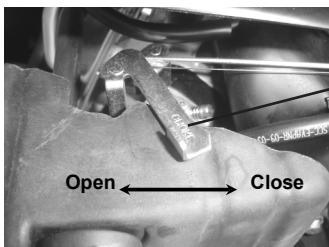

fig.12
- 2) Push the choke lever to the CLOSE position (Fig. 12)
- 5) If the choke lever is on the "CLOSE" position, please turn the choke lever to the "OPEN" position after engine runs 2 minutes. (Figure 12)